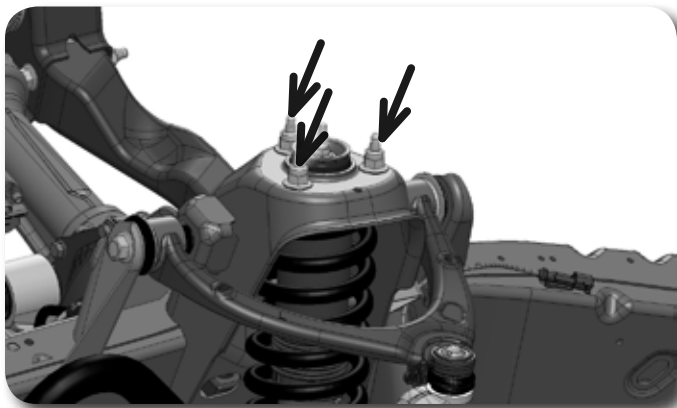

Figure 3
4. Support the lower control arm with a hydraulic jack and remove the 3 upper nuts holding the top of the strut to the frame mount. **DO NOT** remove the center nut on the strut. Discard nuts, these will not be re-used. **Figure 3**